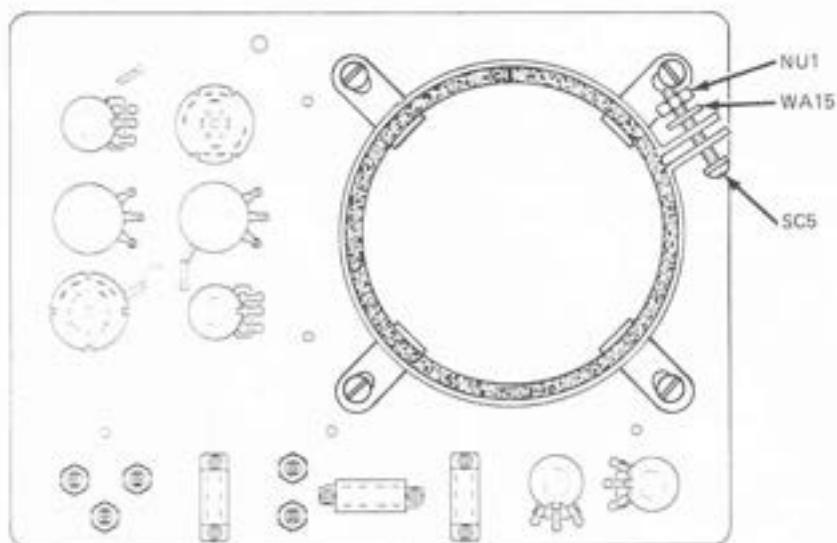

Figure 35. Installing CL59.
(3) Position the crt clamp (CL59) so that it rests inside the flange of the crt front panel brackets. Use a 6-32 x 1" machine screw, lockwasher, and nut to secure the CL59. Position the screw as shown in Fig.35. Do not tighten the screw at this time ()